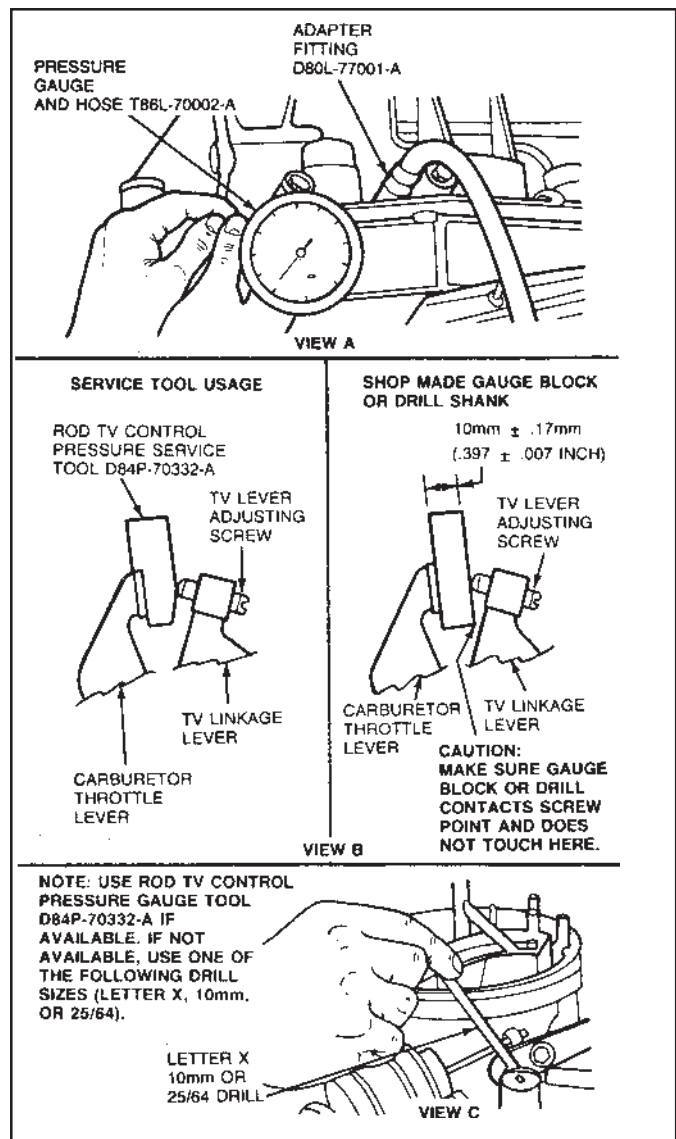

Figure 10
The following procedure may be used to check and/or adjust the throttle valve (TV) control linkage using the TV control pressure. (See Fig. 10.)